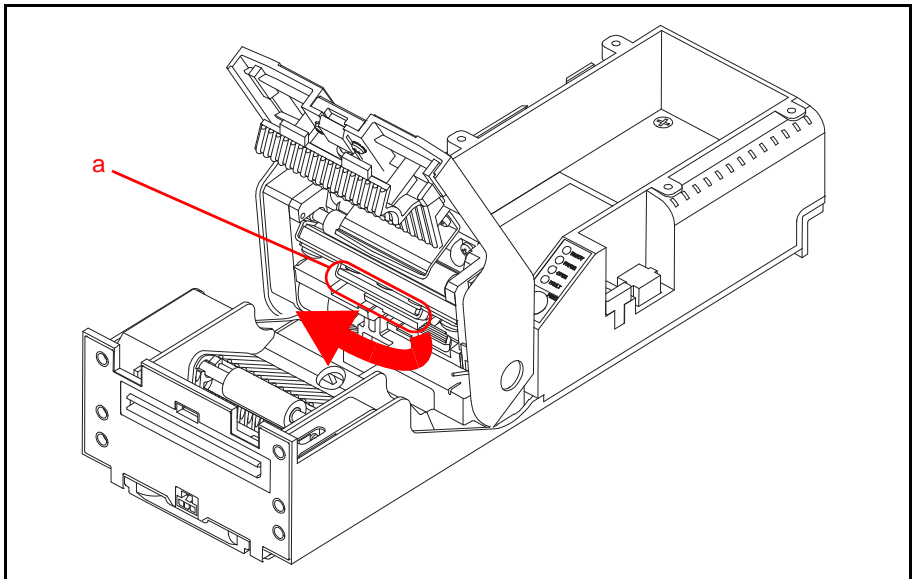

Figure 5 GEN2U Print Head Release Lever
3. Rotate the Print Head Release Lever (Figure 5 a) leftward, then gently press down on the Lever to lower the Print Head.